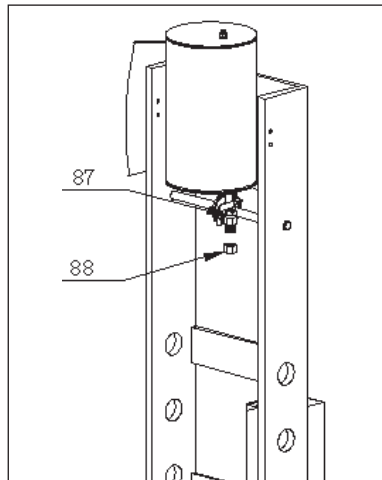

Fig. 6
- Take off the plunger (88) from valve (87) Avoid the O-ring fall down from valve (87) (refer to Fig. 6).